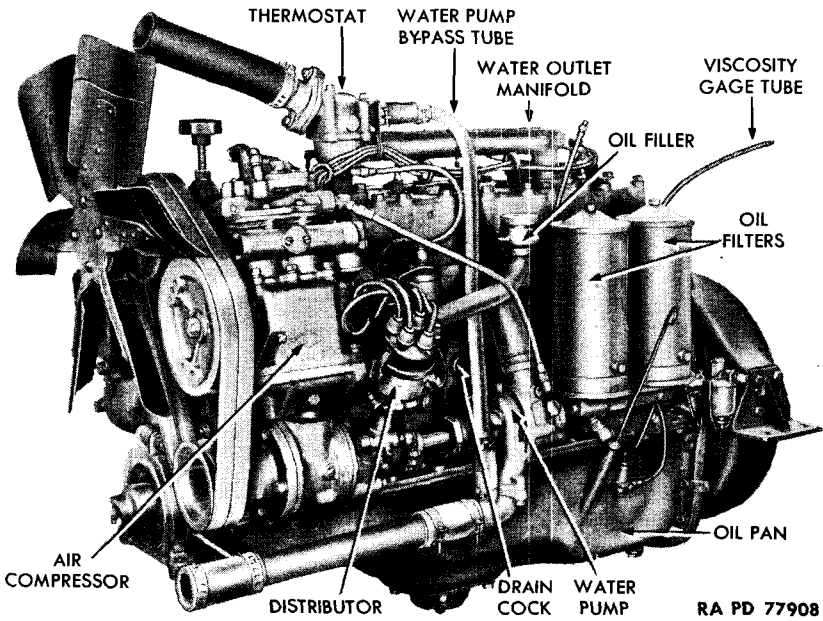

Figure 11 — Engine — Left Front
a. Description (figs. 11 and 12).
(1) The engine is a Hercules RXC 6-cylinder internal combustion gasoline engine of the "L" head type. The crankcase is cast integral with the block. Full length water jackets provide maximum cooling efficiency. A seven-bearing counterbalanced crankshaft is fitted with brass-backed replaceable type bearings. It has forged steel rods and cam ground, aluminum alloy pistons. The exhaust valve seats are a heat-treated cast-iron alloy. Water is drawn from the radiator by a gear driven pump, then forced through a long water manifold into the engine. A water bypass tube, which leads from the water connection on the front cylinder head to the coupling connection at the water pump, provides adequate circulation of the cooling fluid when the thermostat is closed. The engine is supported in the chassis by a three-point rubber mounting. The rear support arms are cushioned on brackets riveted to the side frame members. The trunnion type front support bracket, bolted to the engine support crossmember, permits the engine to pivot slightly with the torsional twist of the frame when the vehicle is being operated over rough ground.
- (1) **ADJUST VALVE TAPPETS** (par. 51).
- (2) **TEST ENGINE COMPRESSION.** Remove spark plugs (par. 83). Insert a compression gage into a spark plug hole. Crank engine and observe gage reading. Repeat test on each cylinder. If compression is below 85 pounds in any cylinder, or if it varies as much as 10 or 15 pounds between cylinders, notify higher authority.
- (3) **CLEAN AND ADJUST SPARK PLUGS.** Clean each plug in a sand-blast spark plug cleaner. Measure gap between electrodes. Bend outside electrode to secure 0.025-inch gap. Test each plug in a spark plug testing machine. Replace plug if spark fails to flow freely across gap while under 105 pounds air pressure. Install spark plugs (par. 83).
- (4) **CLEAN AND TIGHTEN CABLES.** Clean terminals, and tighten connections of battery cables and ignition wires.
- (5) **ADJUST DISTRIBUTOR POINTS.** Check condition of distributor points, and adjust if necessary (par. 82).
- (6) **ADJUST CARBURETOR** (par. 62).
a. Drain Cooling System. Open the two drain cocks, one of which is located on radiator outlet elbow, the other on the side of cylinder block above the water pump (fig. 11).